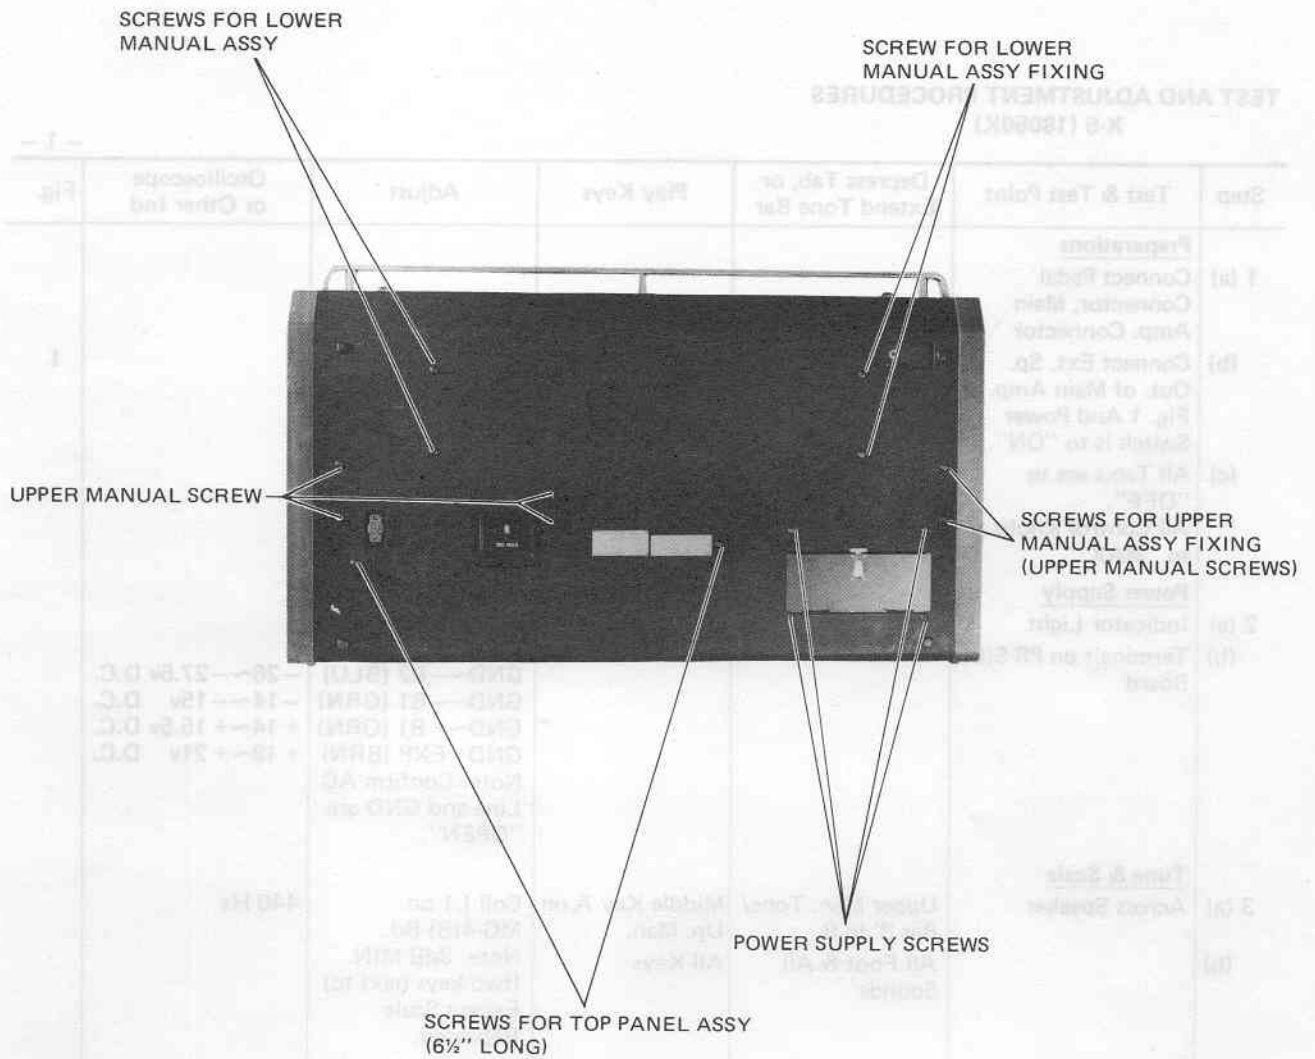

FIGURE 2-1
- Two (2) bronze screws (6½" long) located under Upper Section must be removed FIRST. (Note – See Figure 2-1 for location).
- See figure 2-1 for location – Remove six (6) 1" long bronze screws from under side of Upper Section.
- See Figure 2-1 for location. Remove four (4) 1" long bronze screws from under side and toward front of Upper Section.
- b) Remove six (6) screws fastening cover above power supply assembly — Remove cover.
- c) From under side, right rear of Upper Section remove four (4) screws. See Figure 2-1 for location.
- b) Remove six (6) screws fastening cover above power supply. Remove cover.
- c) Remove two (2) screws and fasteners hold EF-12 PWB.
- d) Remove four (4) screws fastening MG-4 PWB to hinged panel. Carefully unplug and remove.
- e) Remove four (4) nuts and washers from rear of swing panel.